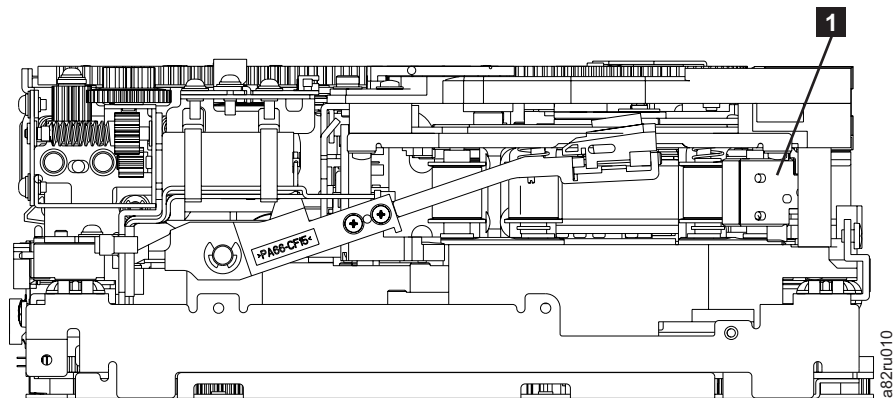

Figure 33. Leader Block Assembly (LBA)
- \_\_\_ Step 7. Rotate the threader motor worm gear ( **4** in Figure 32 on page 99) to turn the threader mechanism gear ( **6** in Figure 32 on page 99) counterclockwise. This moves the LBA out of the cartridge and past the read/write head. Stop this rotation when the LBA is near the tape guide roller nearest the rear of the drive ( **1** in Figure 33).